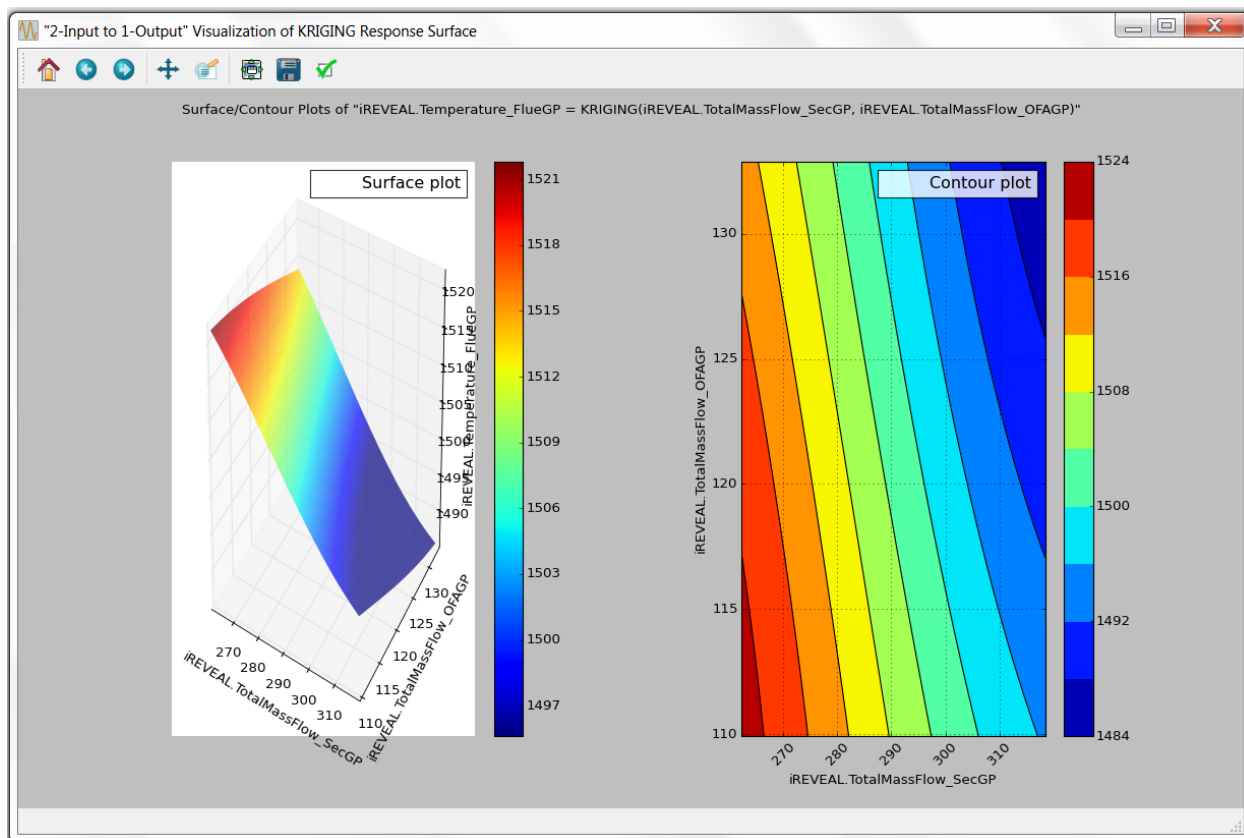

Figure 16: Visualize Response Surface: Response Surface
- The results after clicking “Visualize” as shown in Figure 16.